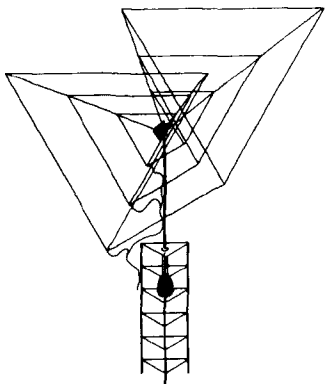

fig. 5. A three-band version. Note elements all properly spaced.
six, (or  $H = x/2$ ), resulted in an arrangement that would readily allow the addition of other loops for different bands, with proper spacing, simply by the addition of another bottom spreader per band. See fig. 5 and 6. One need only use the formulas in table 1 to determine the proper lengths and locations of the loops within the main structure.
**The W1PLH 75-80 meter dipole.** In my March column I showed a drawing of the W1PLH 80-meter antenna. Charlie has modified this a bit and now gets very low SWR readings across the entire 80-meter band (fig. 5). If you have enough trees or supports to hold this antenna about twenty-five to thirty feet in the air, it should prove to be a good, all-round radiator for the complete band —
fig. 5. The W1PLH broadband 80-meter short dipole. The antenna is mostly in the horizontal plane with the fan wires sloping down a bit toward the ground. The antenna can be tuned by adjusting the length of the 17-foot-long sections. All portions of the antenna need not be parallel to the ground (a virtual impossibility if you have a lot of trees in the area).